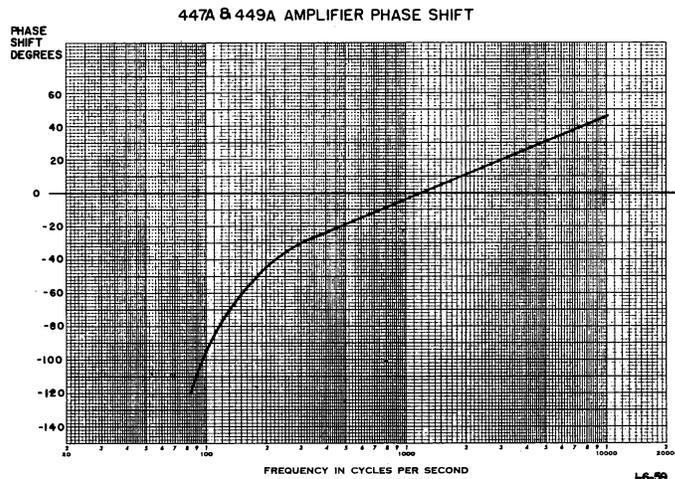
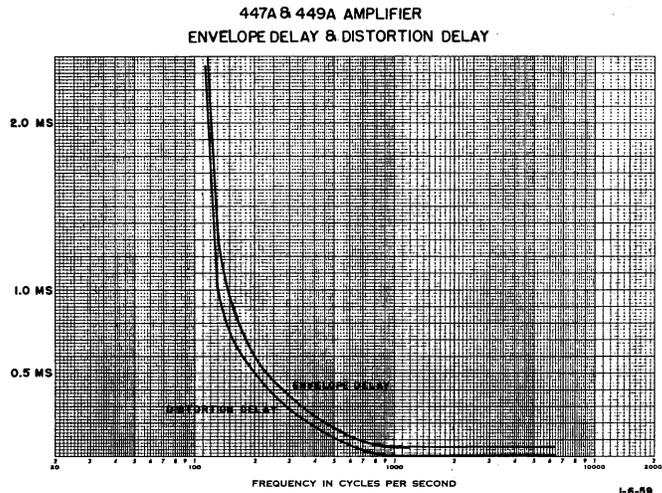

FIG. 7
FIG. 8
3.04 Amplifier phase shift characteristics are shown in Figure 7, and an envelope delay and delay distortion characteristics are shown in Figure 8. These items